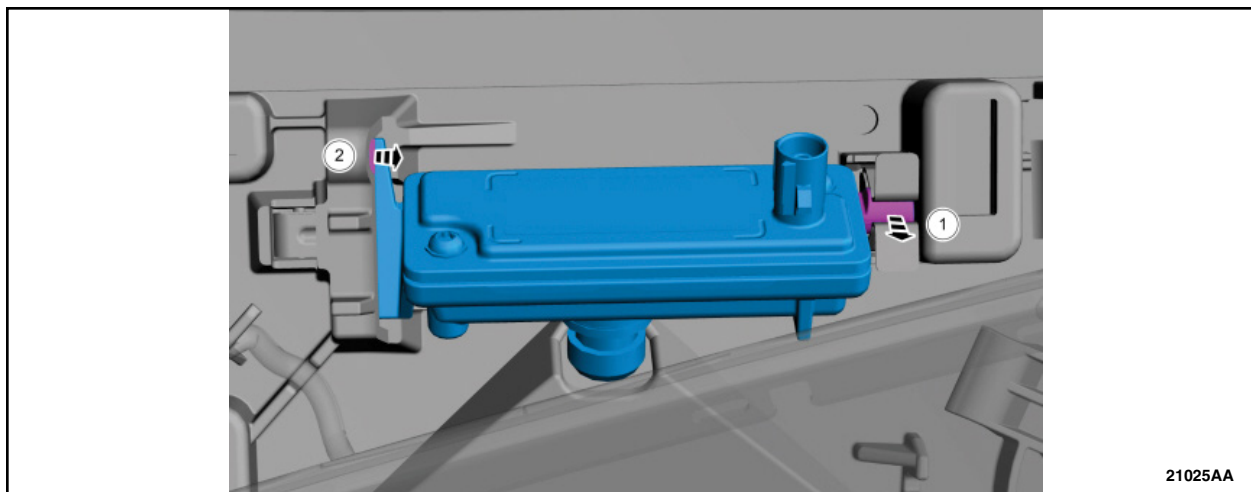

FIGURE 21
23. Remove the Image Processing Module A (IPMA) Camera. See Figure 21.